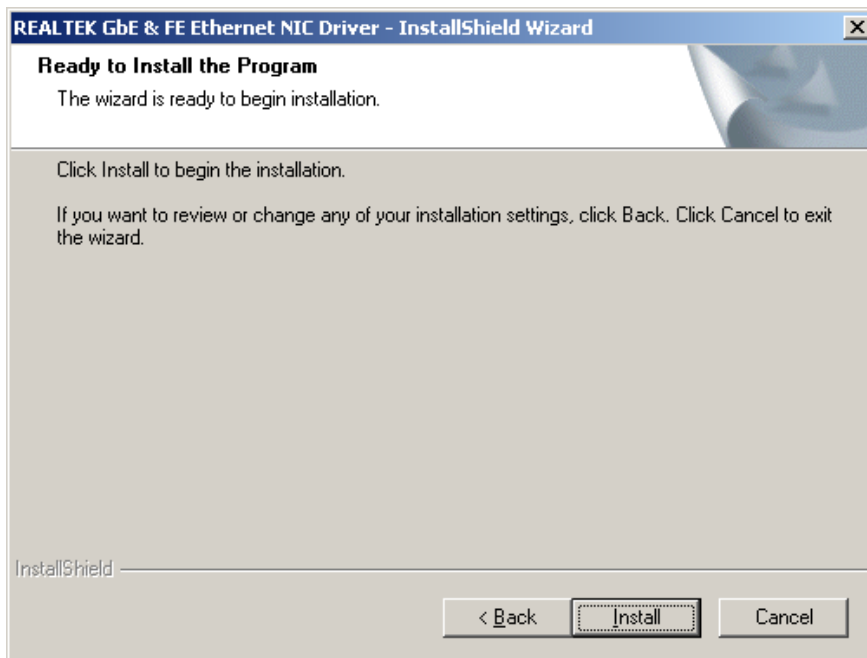

Figure 6-13: Realtek LAN Driver Ready to Install
Step 3: Click **NEXT** and the **Ready to Install** screen appears (**Figure 6-13**).